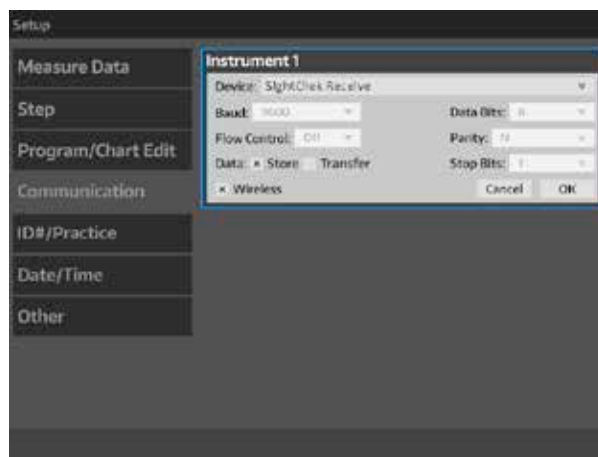

Figure IS-40 Settings Menu
3. Select if this data is being Stored or Transferred, and select the appropriate box(es). Refer to Figure IS-40.
4. If this is being connected wirelessly, check the Wireless box. Refer to the Wireless Dongle Kit instructions for further information on setting up wireless communication. Refer to Figure IS-40.
5. Touch **OK** to save the settings and close the Instrument1 settings box, and go back to the Communication screen. Refer to Figure IS-40.